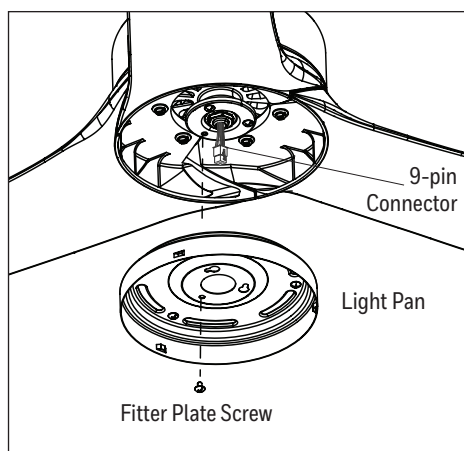

Figure 5.4
- Feed the 9-pin connect through the center hole in the light pan. Align the keyhole slots in the light pan with the loosened screws in the fitter plate. Turn light pan clockwise and replace the previously removed fitter plate screw. Tighten all screws (Figure 5.4).